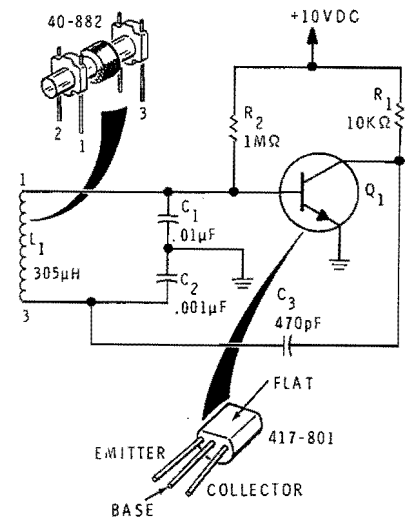

Figure 5-32
19. Remove the 0.1 microfarad capacitor and reinstall the 0.01 microfarad capacitor. This returns the circuit to that shown in Figure 5-32.
12. Turn on the Trainer and insure that the (+) power supply equals 10 VDC. Turn off the Trainer. Construct the circuit shown in Figure 5-32. The tapped capacitor arrangement indicates that this is a \_\_\_\_\_ oscillator.
The tapped capacitance arrangement of the Colpitts oscillator provides the  $180^\circ$  phase shift between the collector and base of  $Q_1$ , resulting in the necessary positive feedback. As seen in Figure 5-32 capacitor  $C_1$  is connected directly across the base-emitter junction of  $Q_1$ . Therefore, the voltage developed across  $C_1$  is the feedback voltage, so  $C_1$  is the feedback capacitor.